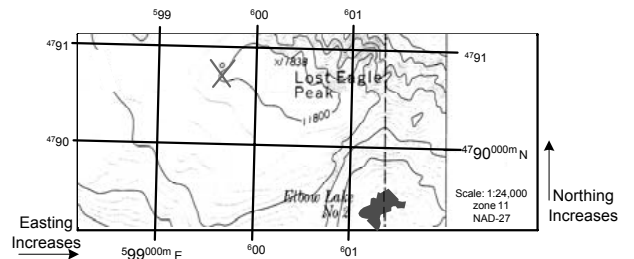

Figure 27
1. Identify and document the **zone number**, **map datum** and **scale**. (zone 11, North American Datum 1927 & 1:24,000, Figure 27).
3. Draw lines connecting equal value UTM tick marks. (Fig 27)